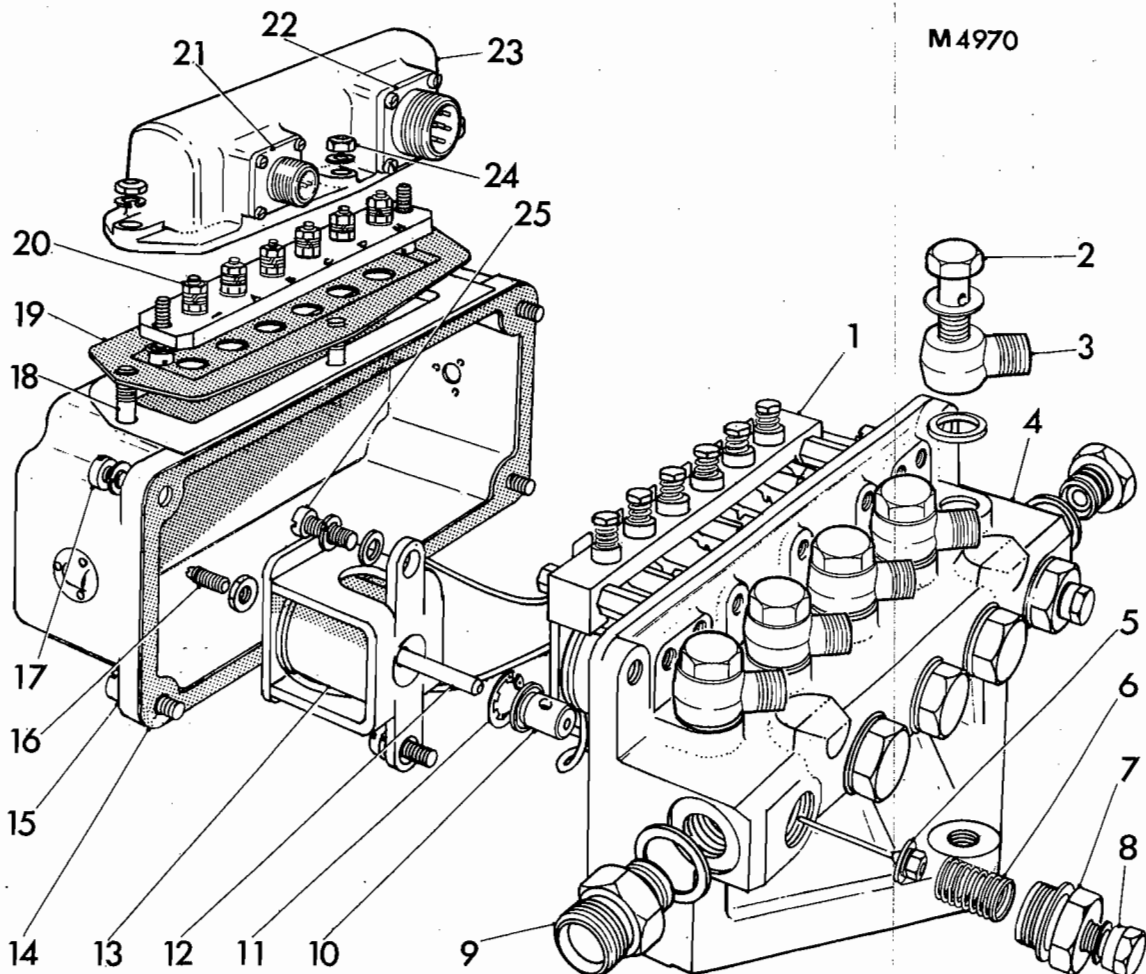
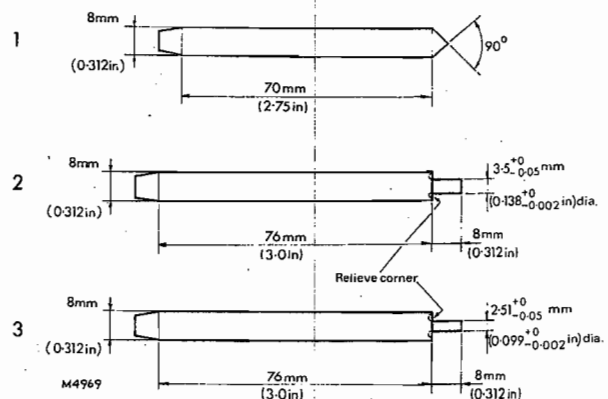

FIG. 7. 5-WAY ELECTRO-PNEUMATIC VALVE
FIG. 8. VALVE SEAT TOOLS
Open the isolation switch. Exhaust the auxiliary air reservoir and remove the pipes from the air inlet (9) Fig. 7 and outlet connections. Note and record the location of each pipe for correct subsequent re-assembly. Unscrew both wiring connector sockets. Remove three securing bolts retaining the unit to the gearbox — withdraw unit.
#### To Dismantle, Fig. 7
Tools, Fig. 8, for re-forming seats on a valve seat (10) and for removing and inserting a valve seat in a body, may be manufactured locally.
To re-form a valve seat in a valve body position the tool — pointed end of item 1 Fig. 8, in the defective
Pass the special tool, item 2 Fig. 8, through the valve plug hole and push the small diameter end of the tool in the valve seat (10).
Push the small diameter end of the special tool, item 3 Fig. 8 into the hole in the valve seat (10) Fig. 7. Hold the tool upright and ensure that the tool
### To Reassemble, Fig. 7